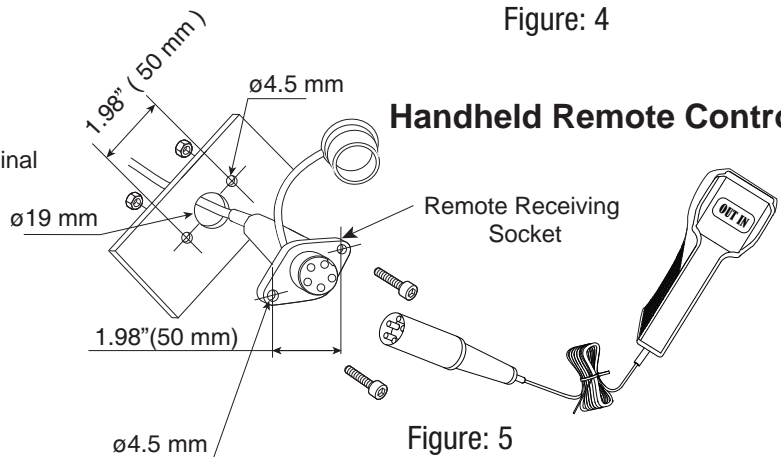

Figure: 5
2. Drill 3 holes as per the pattern & dimensions shown in the figure 5 and mount the socket.